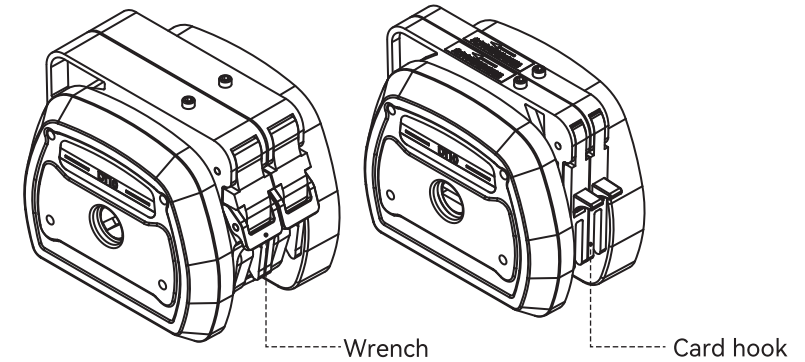

Figure 3 DT pump head remove the card
1. Remove all cards: use your hand to lift the card wrench or hook the lower end to remove the cards, as shown in Figure 3